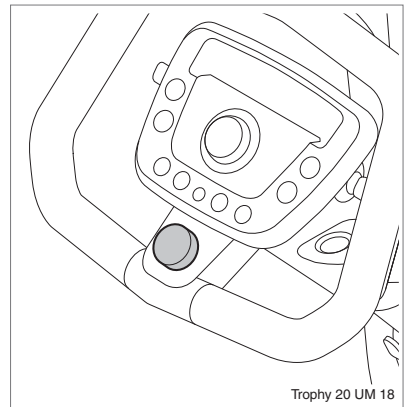

Figure 15
- In case of emergency the optional emergency stop button can be pushed. The scooter will make an emergency stop (figure 15).